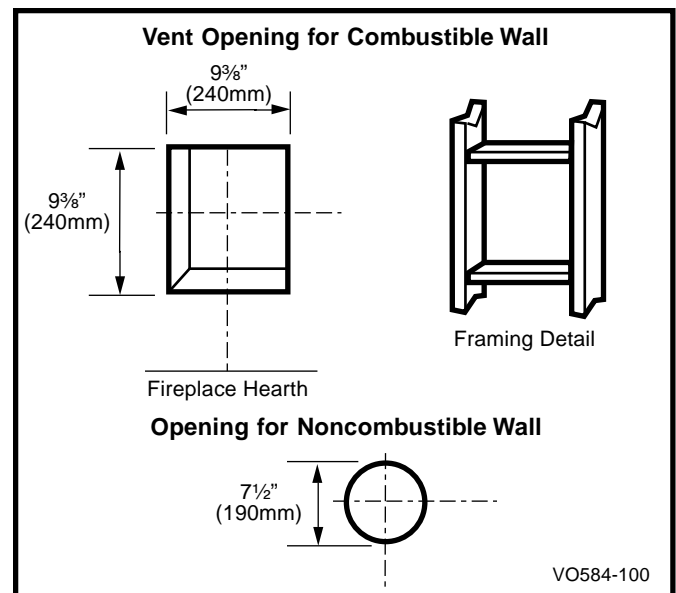

Fig. 22 Locate vent opening on wall.
Locate vent opening on the wall. It may be necessary to first position the fireplace and measure to obtain hole location. Depending on whether the wall is combustible or noncombustible, cut opening to size. (Fig. 22)
**Combustible Walls** (Fig. 22): Cut a 9 $\frac{3}{8}$ "H x 9 $\frac{3}{8}$ " W (240 x 240mm) hole through the exterior wall and frame.
**Noncombustible Walls** (Fig. 22): Hole opening must be 7.5" (190mm) in diameter.